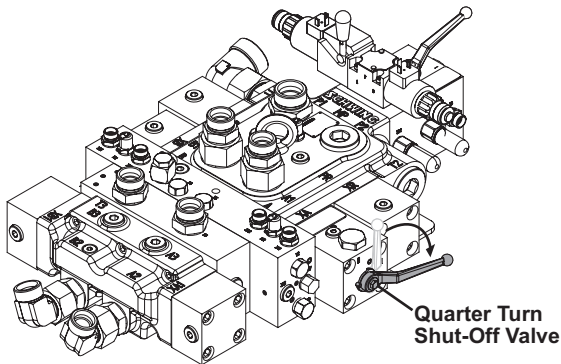

Figure 32
10. Open the shutoff valve (Figure 32). The unit will not stroke with this valve closed.